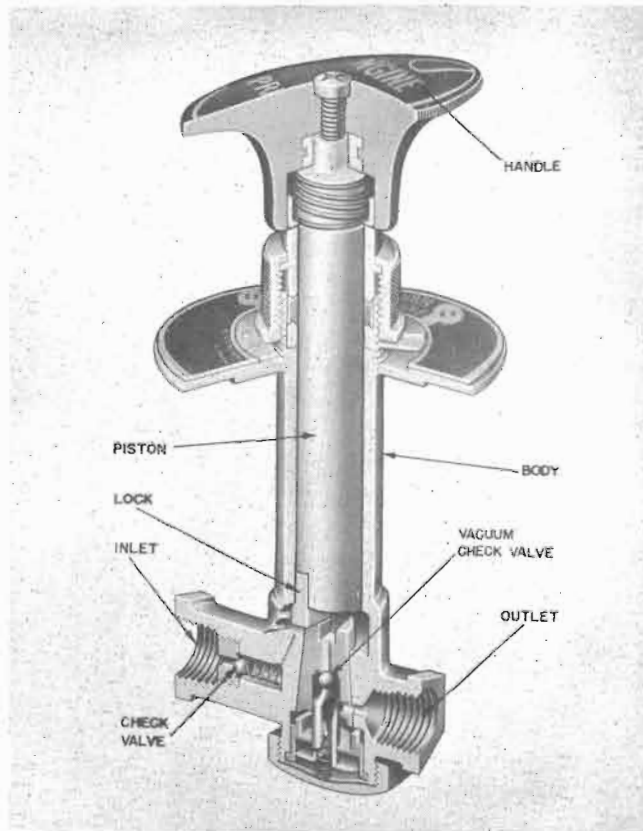

Figure 167 — Engine Primer
f. ENGINE PRIMER.—(See figure 167.)—The engine primer pump and the operating handle, Parker type 401, is installed on the sub-panel directly below the instrument panel in the front cockpit. The Parker primer is of the displacement plunger type. It is an entirely self-contained unit with no auxiliary valves or other parts. Distribution and shut-off are effected by the single pump handle. In the "OFF" position, the handle is positively locked against vibration. A special vacuum check valve prevents suction of fuel into the engine should the primer accidentally be left in the "ON" position. The fuel is pumped by means of the primer pump from the discharge side of the fuel unit to the engine fuel outlet distributor on cylinder No. 1 intake port. From the primer distributing inlet fuel diffuses through jets in the cylinder intake ports of cylinders 8, 9, 1, 2, and 3. To operate, push in on the handle and rotate counterclockwise. This unlocks the handle and allows the pump to be operated.